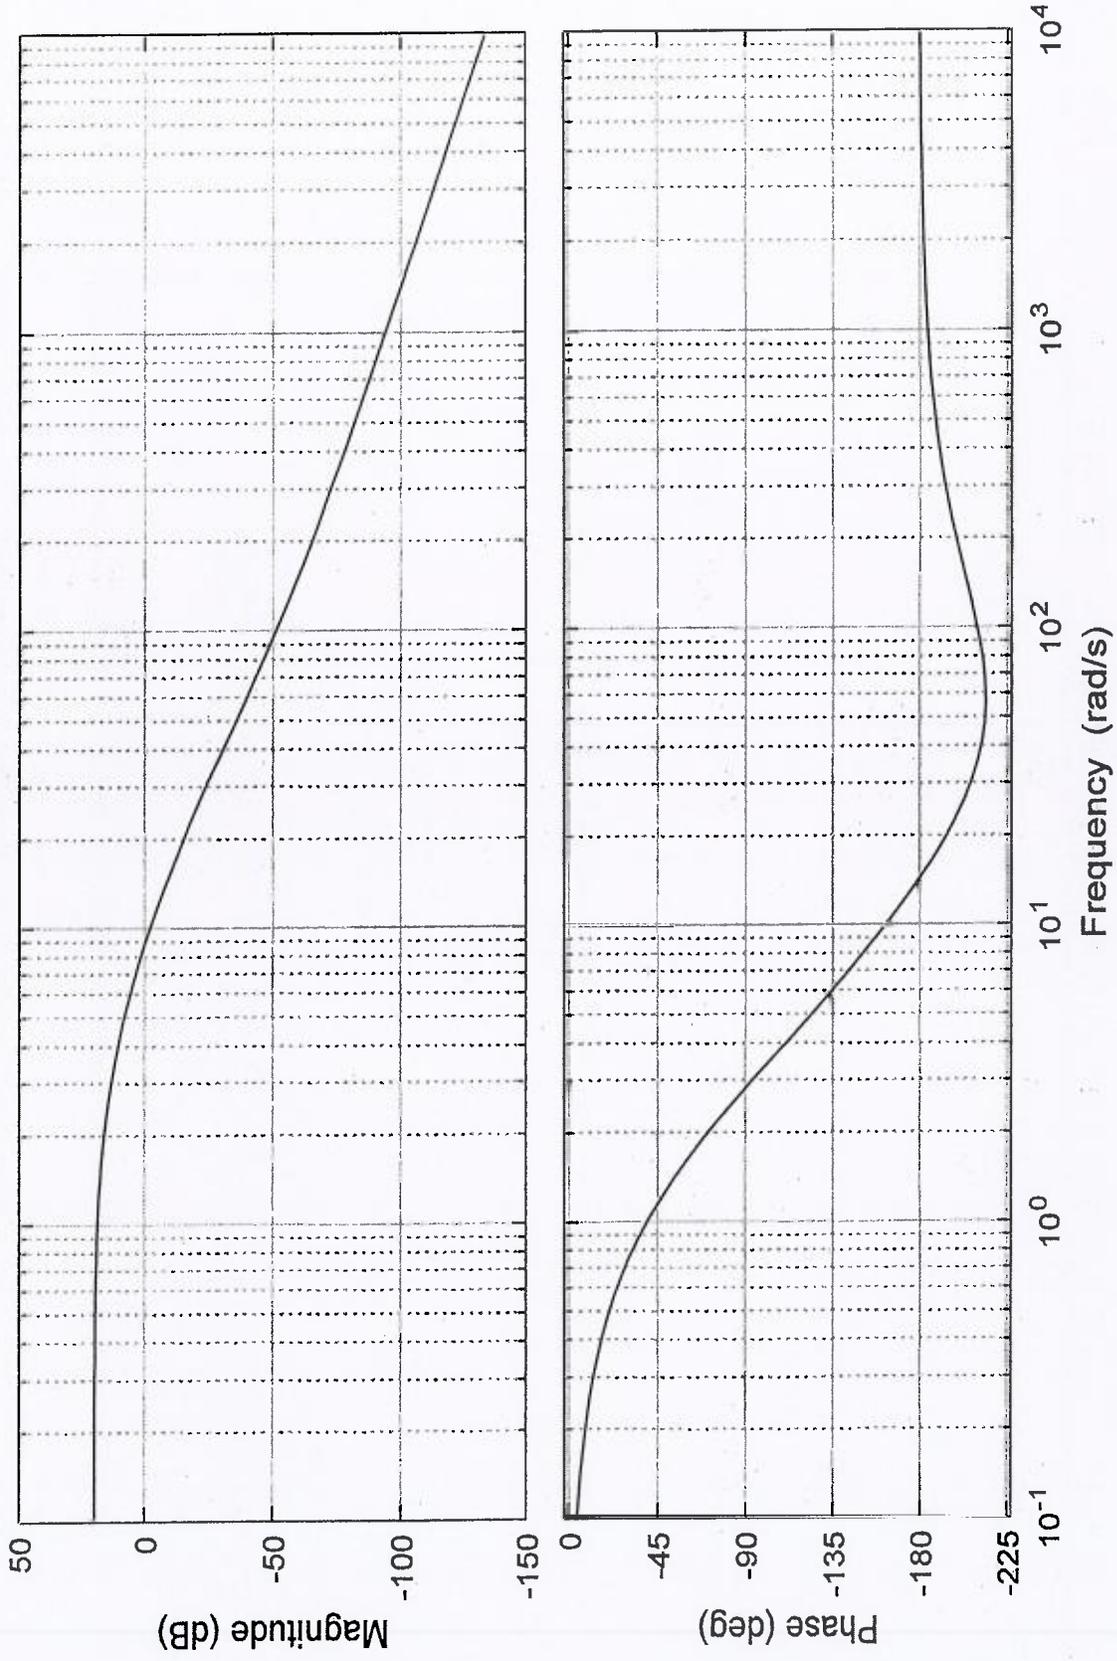

Figure Q5.2 – Open Loop Uncompensated System Frequency Response
Figure Q5.2 shows the uncompensated open loop frequency response plots (both magnitude and phase). Based on the information provided, create another equivalent second order model for the uncompensated closed loop system. Calculate the model parameters: DC Gain, K_{dc} , the damping ratio, ζ , and the frequency of natural oscillations, ω_n , and write the model transfer function, $G_{m2}(s)$.
Consider the same closed loop unit feedback control system as in Question 5, with the uncompensated open loop frequency response plots shown in Figure Q5.2, on page 12. The closed loop system is to be compensated by a Lag Controller with the transfer function described below as $G_c(s)$. Note that for $G_c(s)$ to represent the Lag-type Controller transfer function, the pole at $-\frac{1}{b_1}$ has to be closer to the Imaginary axis than the zero at $-\frac{a_0}{a_1}$.
1. **(15 marks)** Calculate the appropriate Lag Controller parameters and the Controller transfer function. Show the general shape of the compensated frequency response by overlaying it on top of the uncompensated plot in Figure Q5.2.